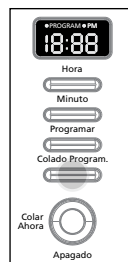

Figure 4
3. Press the DELAY BREW button once (Figure 4). The Coffee Dispenser is now set to automatically brew at the pre-set time.